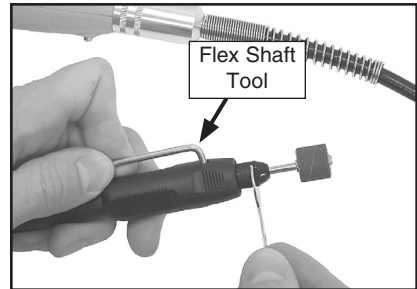

Figure 5. Tightening the flex shaft collet.
8. Insert the flex shaft tool into the hole at the side of the flex shaft, as shown in **Figure 5**, and hand tighten the collet nut.